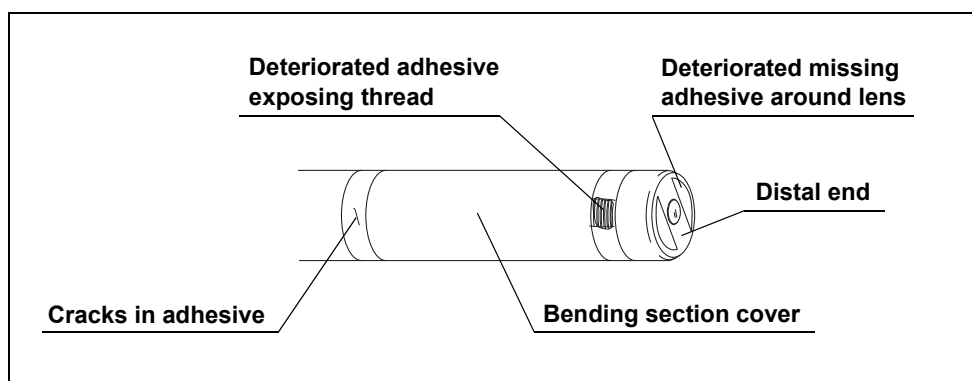

Figure 3.2
- Pitted, cracked, peeled or discolored adhesives at either end of the bending section shown as Figure 3.2.
- Olympus has verified no degradation happens when the listed number of disinfection or sterilization cycle is performed. When this endoscope is disinfected or sterilized more than the following times, the degradation shown in Section Figure 3.2 may occur. If such degradations happens, maintenance is required. For more details, contact Olympus.
- Cracks, deterioration or peeling may occur in bending section shown as Figure 3.2, insertion section or universal cord.